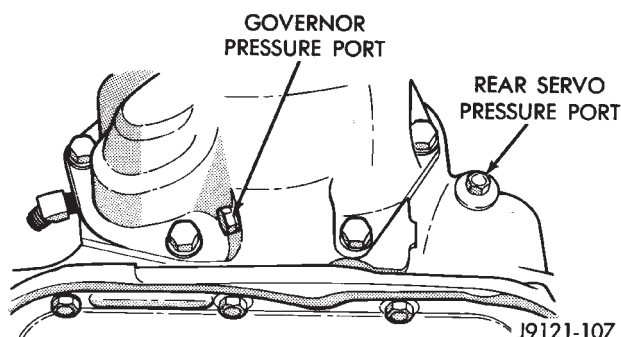
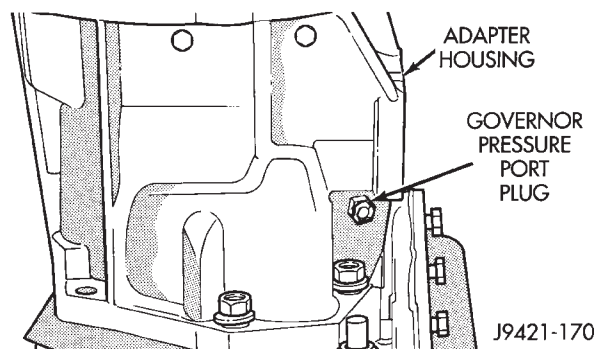

Fig. 5 Rear Servo And Governor Pressure Test Ports (4 x 2 Transmission)
Fig. 6 Governor Pressure Test Port (4 x 4 Transmission)
The rear servo pressure port is at the right rear of the transmission case (Fig. 5).
On 4 x 2 models, the governor pressure port is at the left side of case at the transmission rear (Fig. 5). On 4 x 4 transmissions, the test port is in the driver side of the adapter housing (Fig. 6).
(1) Connect pressure test gauge to rear servo port (Fig. 5).
(2) Start and run engine at 1600 rpm for test.
(3) Move valve body selector lever four detents rearward from full forward position. This is Reverse range.
(4) Move throttle lever all way forward then all the way rearward and note gauge readings.
(5) Pressure should be 145 - 175 psi (1000-1207 kPa) with lever forward and increase to 230 - 280 psi (1586-1931 kPa) as lever is moved rearward.
(1) Connect test gauge to governor pressure port (Figs. 5 and 6).
(2) Move selector lever to D range.
(3) Apply service brakes. Start and run engine at curb idle speed and note pressure. At idle and with wheels stopped, pressure should be zero to 1-1/2 psi maximum. If pressure exceeds this figure, governor valve or weights are sticking open.
(4) Slowly increase engine speed and observe speedometer and pressure test gauge. Governor pressure should increase in proportion to vehicle speed (approximately 1 psi for every 1 mph shown on speedometer).
(5) Governor pressure rise should be smooth and drop back to 0 to 1-1/2 psi when throttle is closed and wheels are stopped.